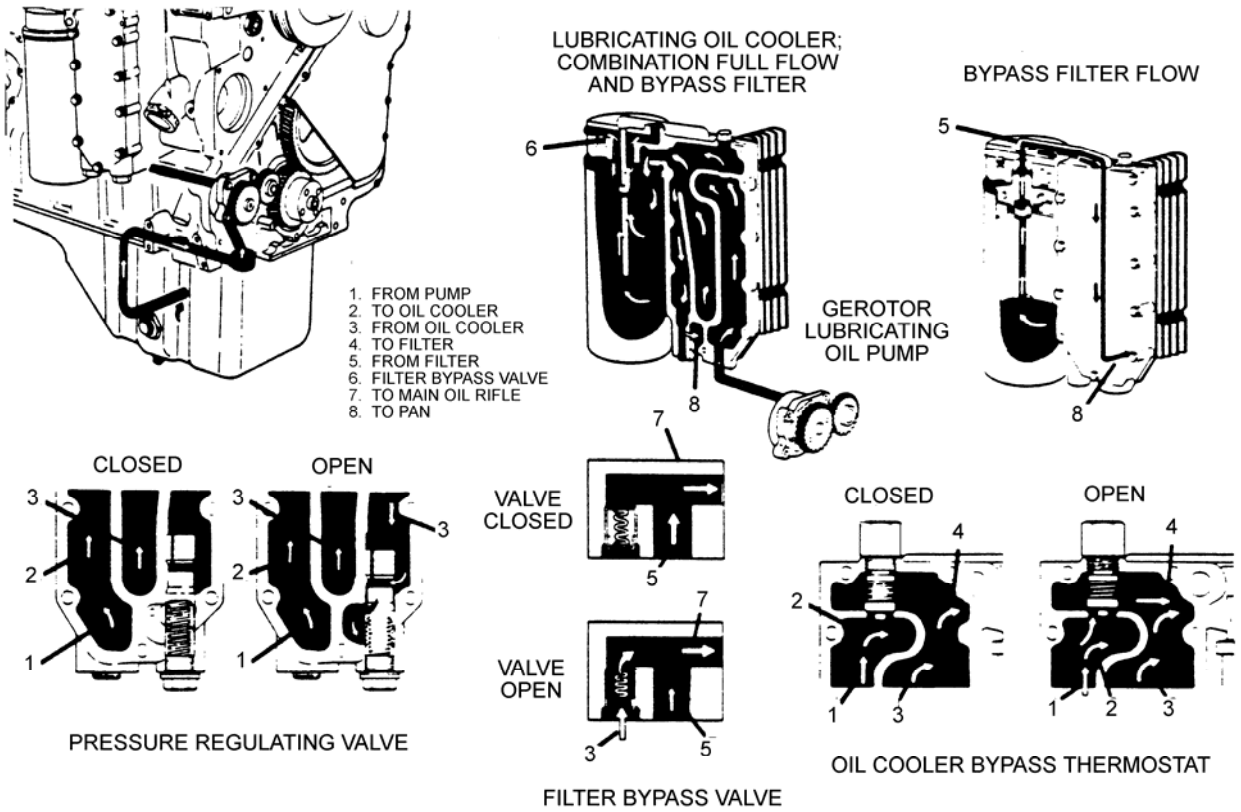

Figure 3-10
D.1. General	<p>The main diesel engines are equipped with a pressure type, wet sump oil system (figure 3-10). The system consists of:</p> <ul style="list-style-type: none">• pump and suction screen• spin-on cartridge filter• filter bypass valve• pressure regulating valve• oil cooler bypass valve